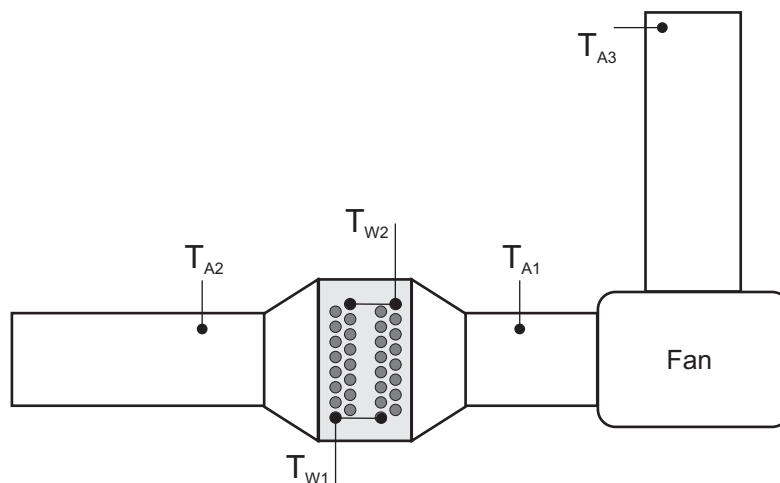

Figure 35 Heat Exchanger Connections
1. Connect and set up the standard 32 tube heat exchanger as shown in **To Change a Heat Exchanger** on page 35. Connect as for **parallel** flow (see Figure 35) and set a heater tank temperature of **60°C**. Water enters the bottom of the heat exchanger and exits from the top.